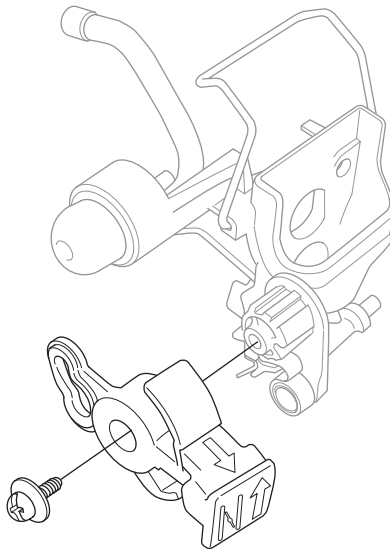

Fig 13
Loosen the screw and dismantle the control (see figure 13).
Loosen the filter holder from the rubber mountings (B). (see figure 13)